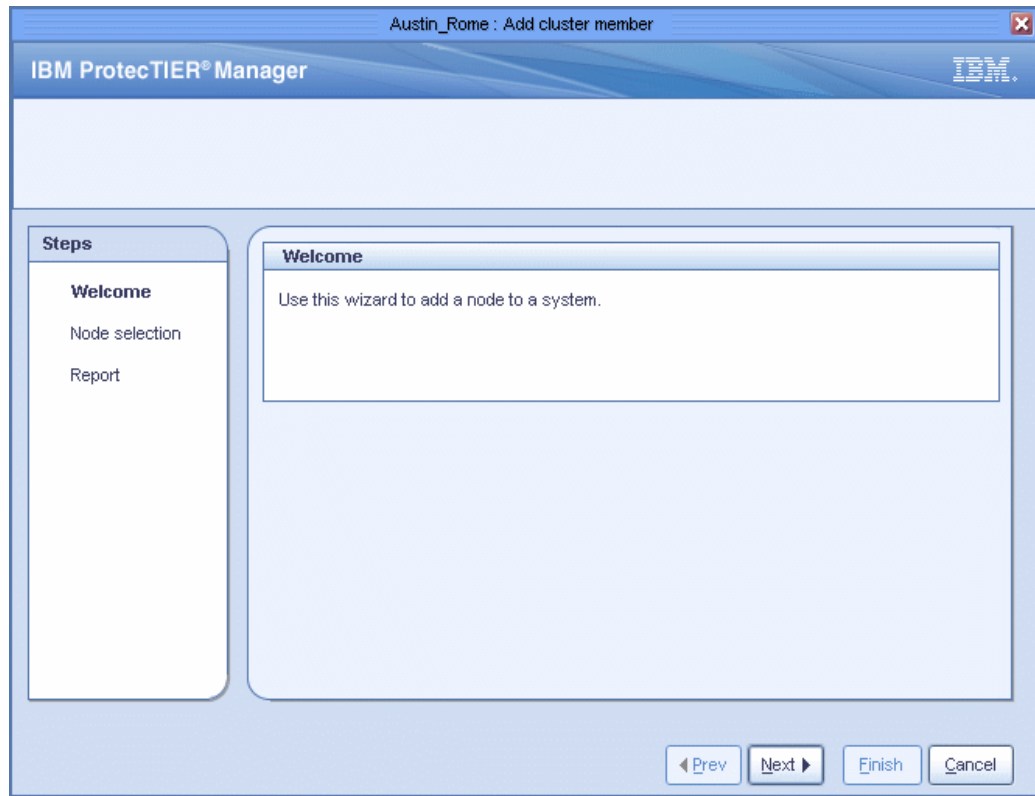

Figure 10-77 Add cluster member: Welcome window
2. Select **Cluster Management** → **Add Cluster member**. The Add cluster member wizard Welcome window opens (Figure 10-77).